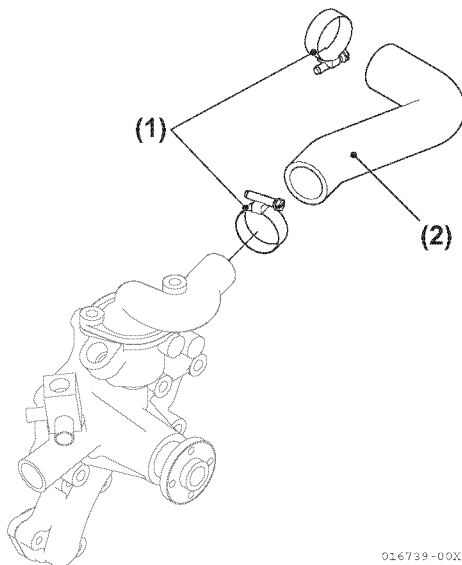

Figure 7-30
2. Release clamps on coolant lines (Figure 7-30, (1)).
3. Disconnect pipe (Figure 7-30, (2)) from coolant pump.